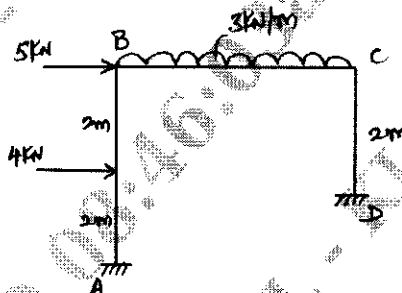

Fig.Q6
- 6 Determine the support moments for the rigid frame shown in the Fig.Q6. Use element stiffness matrix method. Draw BMD and elastic curve.  $EI$  is constant.